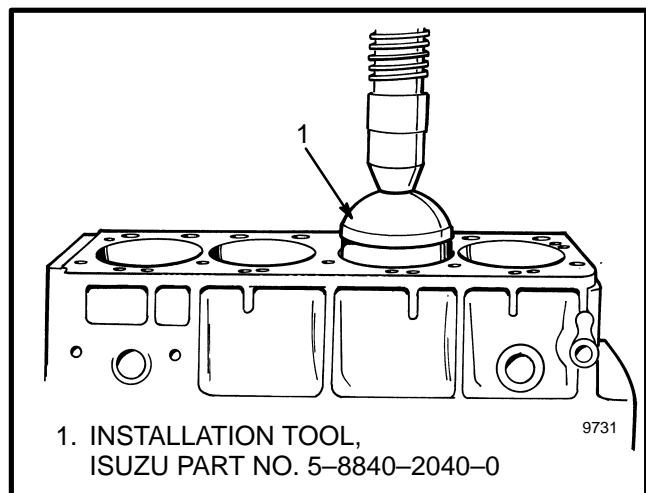

FIGURE 55. CYLINDER LINER, INSTALLATION
3. Apply oil to the outside surface of the cylinder liner. Use a press and the special installation tool to install the cylinder liner. See FIGURE 55.